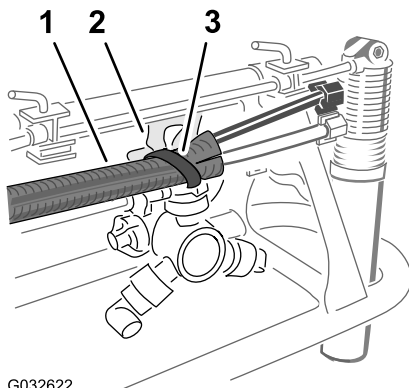

Figure 30
5. Secure the tube assembly to the hole in the nozzle support with a cable tie as shown in Figure 30.